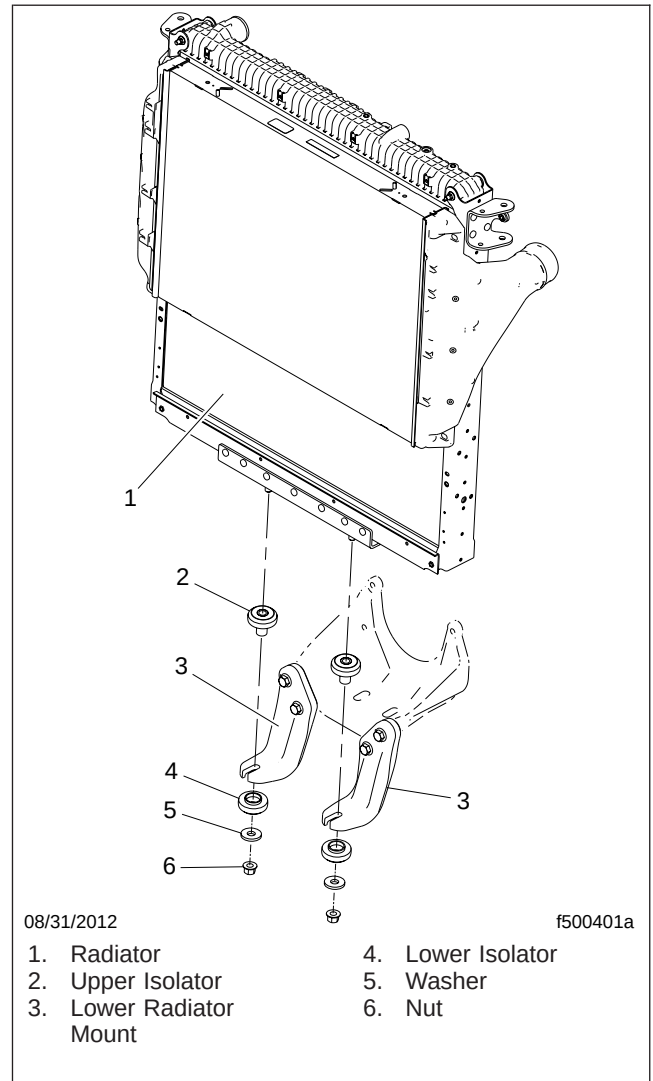

Fig. 10, Radiator Lower Mounts
14. Unbolt the radiator from the lower mounts. See Fig. 10.